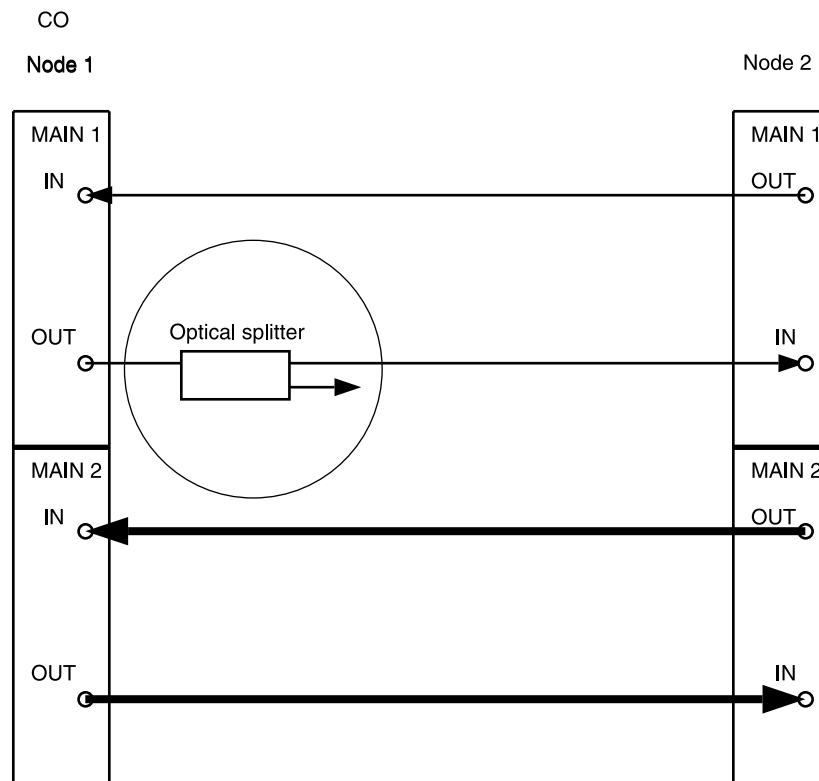

Figure 3 – DDM-2000 OC-3 Drop or Add/Drop Network to Ring Upgrade
13. At Node 1, install optical splitter in **MAIN 1 OUT** optical line as shown in Figure 3.